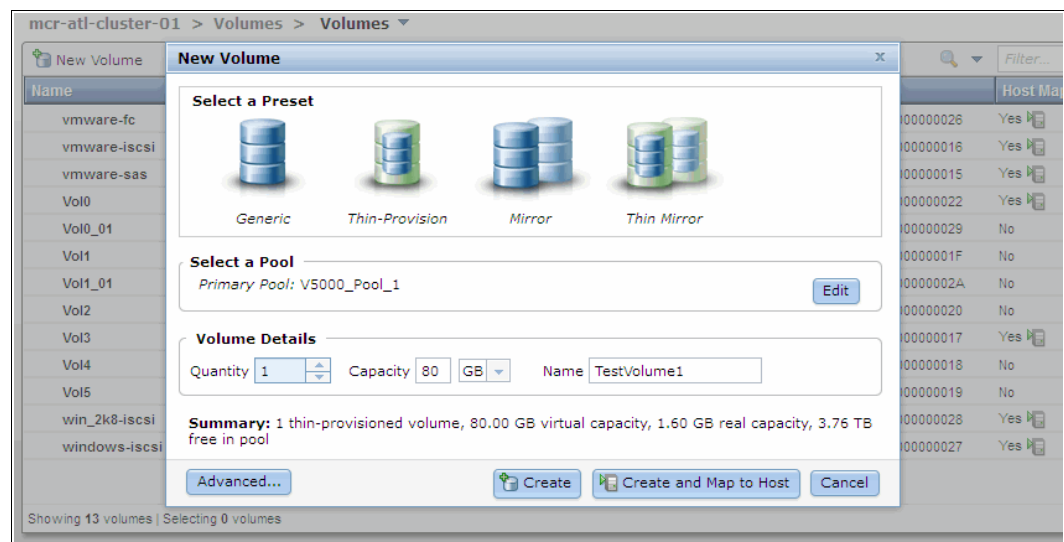

Figure 5-9 Enter the volume name and size
2. Select the pool in which the thin-provisioned volume should be created by clicking it and entering the volume name and size. In our example, we clicked the pool that is called **V5000_Pool_1**. The result is shown in Figure 5-9.
3. Make your choices, if required, and click **OK** to return to New Volume window, as shown in Figure 5-9 on page 167.